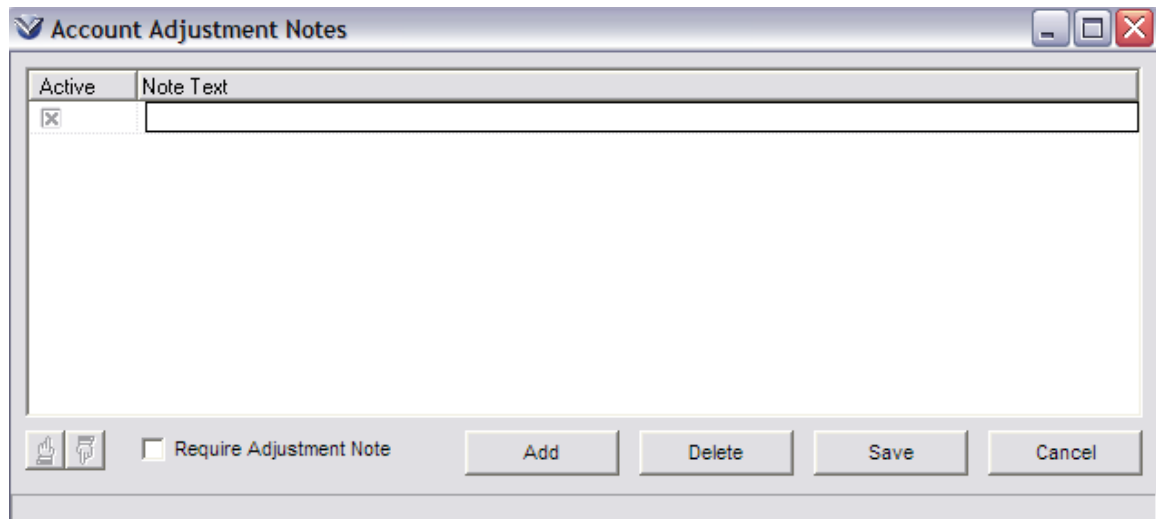

Figure 8-3. Account Adjustment Notes Window
5. On the Account Adjustment Notes window, click the Add button (Figure 8-3).